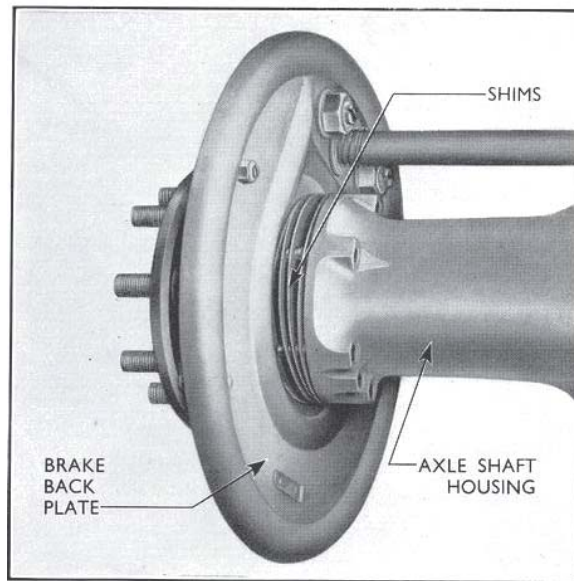

Fig. 11
9. Ensure that the opposite axle shaft and bearing retainer are securely installed and wedge the axle axle shaft outward (see Fig. 11). Turn the axle shaft flange through a small angle as the wedge is inserted to ensure that the bearing cone seats fully in its cup.